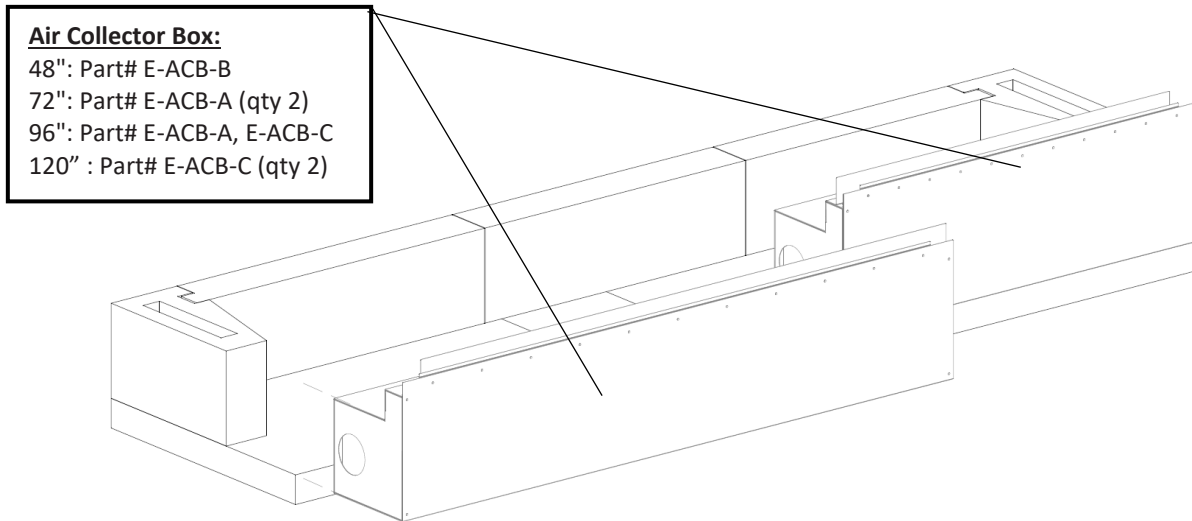

FIGURE 11
3) The Air Collector Box Assemblies will be placed on top of the base plate(s) as shown (**Figure 11**).